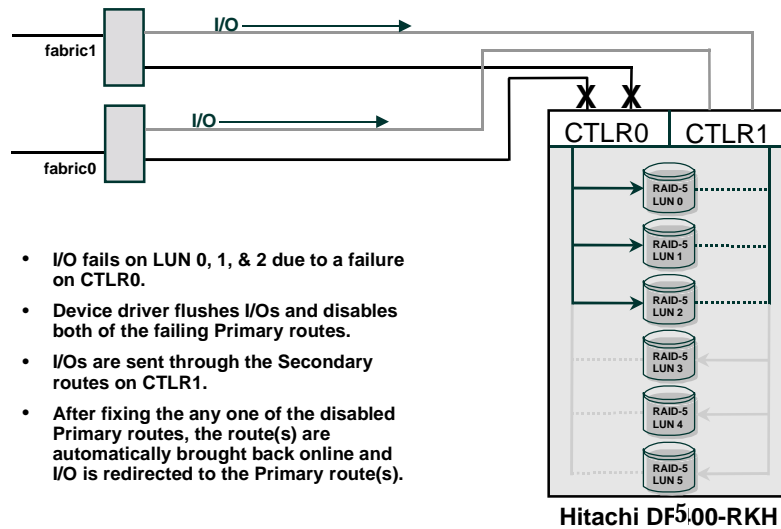

Figure 7-4.
- In Figure 7-4, *both Primary routes* to Controller 0 have failed. Note that I/O *still continues to Controller 0*, but through the Secondary routes.